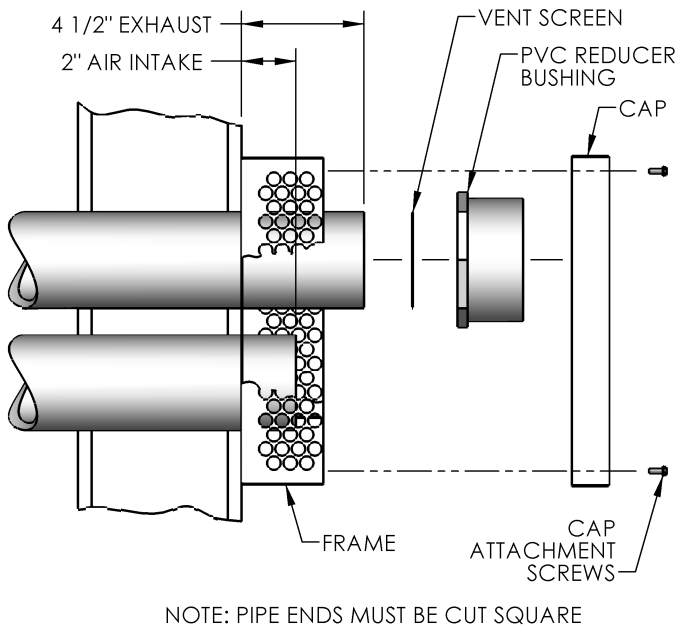

Figure 1
4. Install the air intake and exhaust vent pipes through the holes making sure there is 2" of pipe protruding on the intake, and 4 1/2" of exhaust pipe protruding beyond the face of the frame. Pipes must be cut perfectly square. Refer to Figure 1.
6. Assemble the vent terminal cap to the vent terminal frame using the four (4) cap attachment screws.